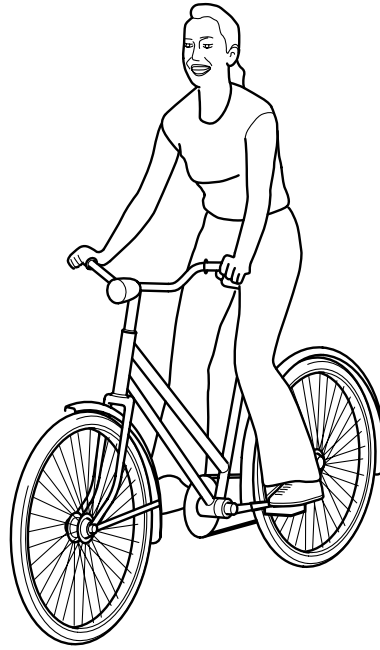

Fig. 2
2 Fig. 2 shows a cyclist riding a bicycle.
- (a) Identify **four** examples from Fig. 2, and explain for each, why the designer would have used anthropometric data. [12]